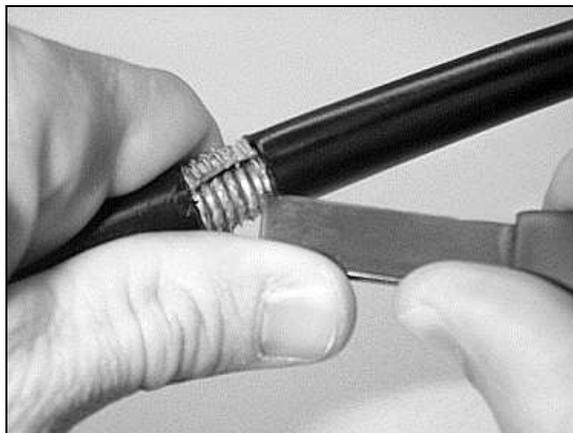

Figure 26 - Make two longitudinal cuts between the ring marks.
6.7 Locate the overlap in the steel armor. Make two longitudinal cuts approximately ¼ inch on each side of the overlap (Figure 26). The longitudinal cuts should span the 10-inch section of cable between the ring cuts.